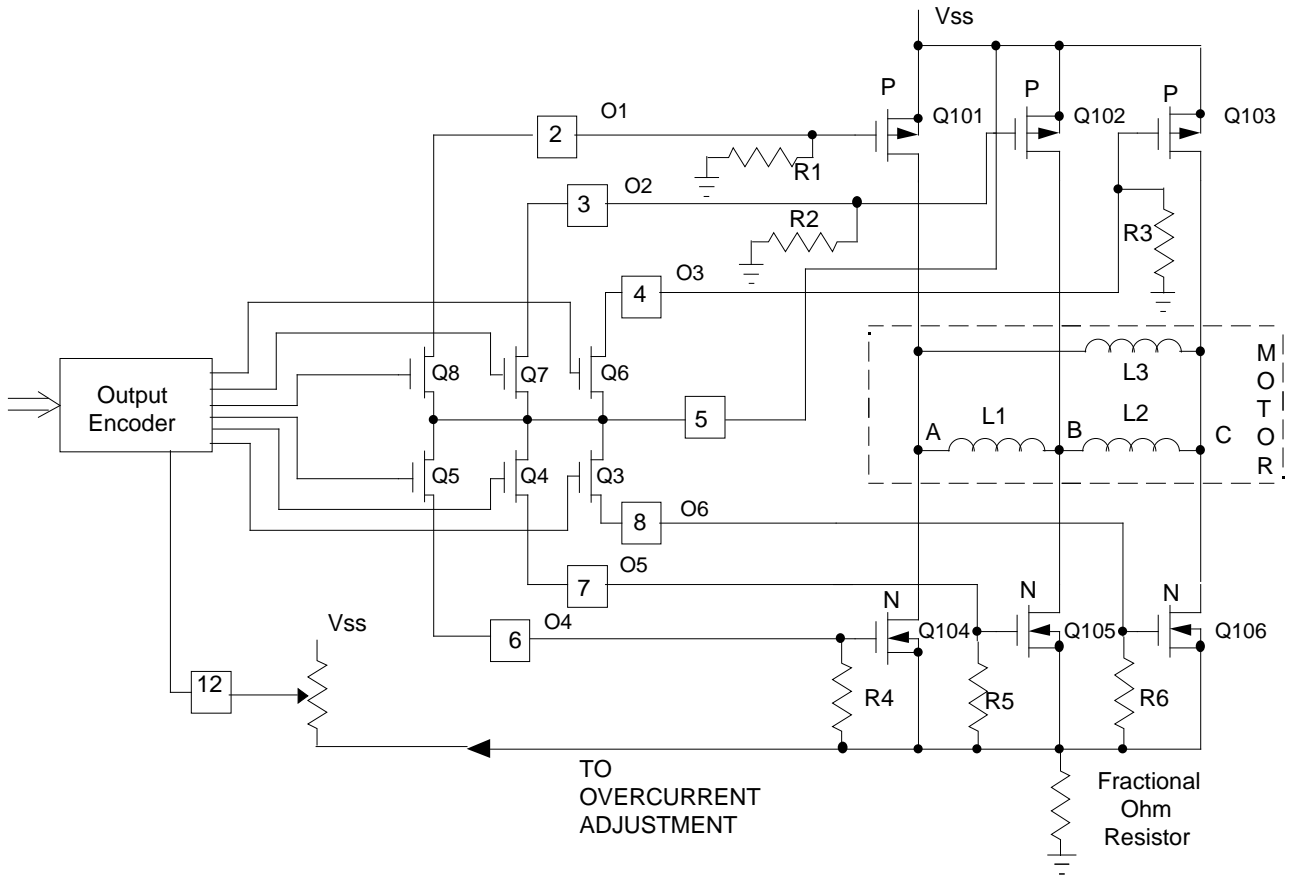

FIGURE 1. LS7260 THREE PHASE OUTPUT DRIVER CIRCUITRY
A positive braking feature is provided to effect rapid deceleration. While the LS7262 is designed for driving NPN and PNP transistors (See Fig. 2), the LS7260 is designed to drive both NMOS and PMOS Power FETs and develops a full 12V drive for both the N-Channel and P-Channel devices (See Fig. 1) when using a 12V power supply.
For the LS7262, a high level at this input unconditionally turns OFF Outputs 1, 2 and 3 and turns ON Outputs 4, 5 and 6 (See Fig. 2). For the LS7260, a high level at this input turns ON Outputs 1, 2 and 3 and Outputs 4, 5 and 6 (See Fig. 1). In both cases, transistors Q101, Q102 and Q103 cut off and transistors Q104, Q105 and Q106 turn on, shorting the windings together. The BRAKE has priority over all other inputs.
The oscillator is used for motor speed control as explained under VTRIP. Both upper and lower motor drive transistors are pulse width modulated (See Fig. 1 or 2) during speed control. For the LS7262, the outputs turn on in pairs (See Table 3). For example (See dotted line, Fig. 2): Q8 and Q4 are on, thus enabling a path from the positive supply through the emitter-base junction of Q101, Q8, Q4, R5, the base emitter junction of Q105 and the fractional-ohm resistor to ground. The current in the above described path is determined by the power supply voltage, the voltage drops across the base-emitter junctions of Q101 and Q105 (1.4V for single transistor or 2.8V for Darlington pairs), the impedance of Q8 and Q4 and the value of R5. Table 1 provides the recommended value for R5. R4 and R6 are the same value.
For the LS7260, (See Fig. 1) the external drivers also turn on in pairs. Internal operation is somewhat different than the LS7262. For example, external transistors Q101 and Q105 will turn on when internal transistor Q8 turns off and Q4 turns on enabling full power supply drive on Q101 and Q105. Since Pin 5 is tied to Vss, the gate of P-channel Driver Q101 is brought to ground by R1 and the Gate of N-Channel driver Q105 is brought to Vss by Q4. Other external output pairs turn on similarly and the commutation sequence is identical to that of the LS7262 (Table 3). Table 2 indicates the minimum value of R1 (=R2=R3=R4=R5=R6) needed as a function of output drive voltage for Fig. 1.
* See Figures 1 and 2. For the LS7260, Outputs O1,O2,O3 are the logical inversions of the corresponding Outputs of the LS7262.